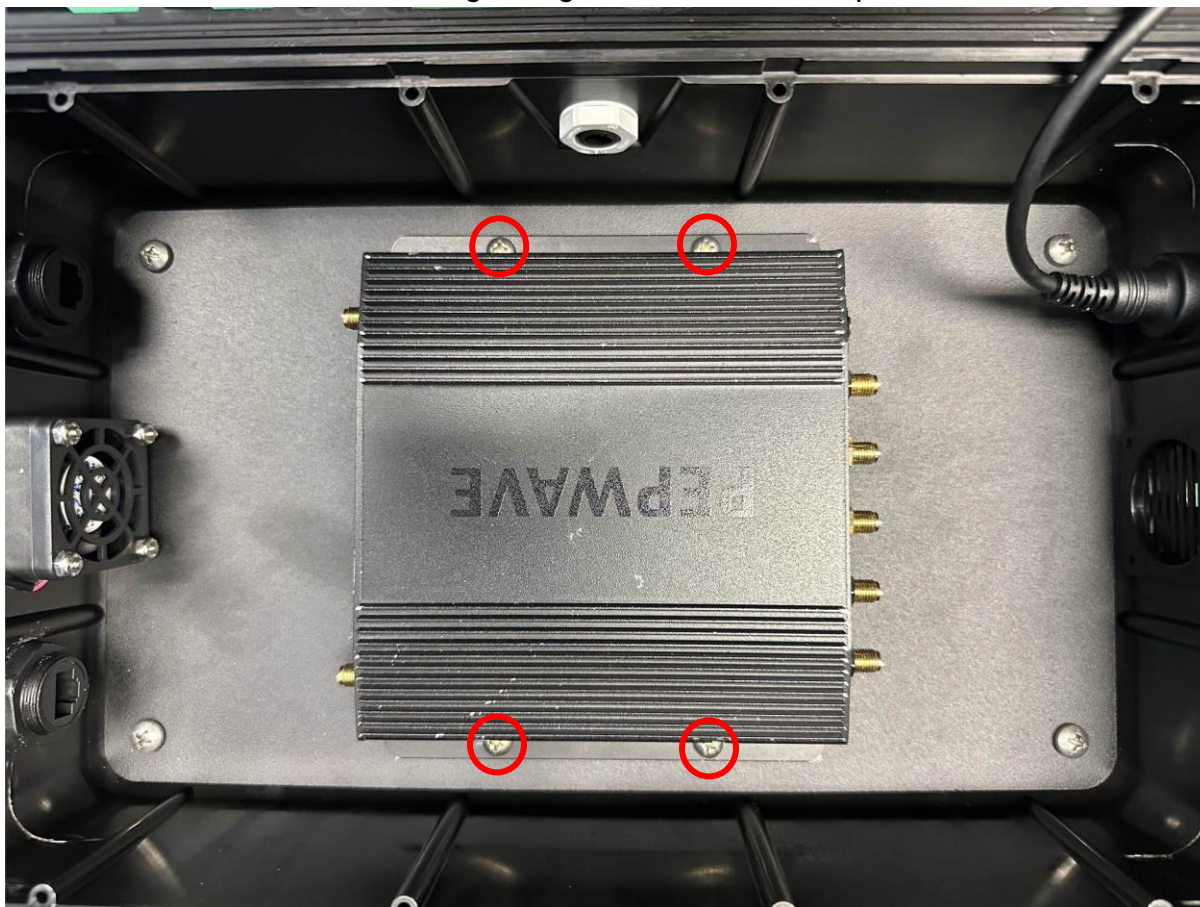

Figure 3: Fasten the router to the bottom plate using PTA0399-TL screws.
- D. Mount the router using the four PTA0399-TL pan head screws provided in the kit, as shown in Figure 3.